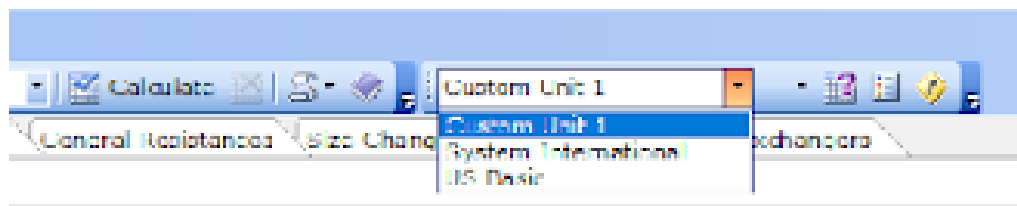

Figure 38: Unit Set Drop-Down Menu.
36. Now that we have successfully added our custom unit, it is now available in the unit set drop-down menu (Figure 38). Let us now use **Custom Unit 1** as our preferred unit set for this example: